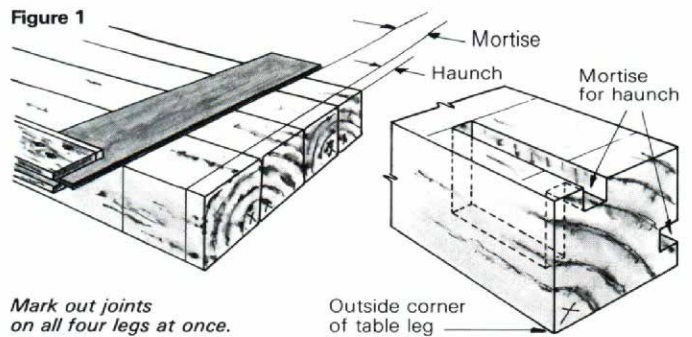

Figure 2
1) Kirby corrects his chisels so the sides are parallel and square with the back. For me a chisel with parallel sides is a car without a steering wheel. The sides of my chisels are tapered 1° toward the front face as shown in fig. 2. This is better because you can twist it against wild grain to keep the mortise straight. The chisel back has to be straight, the edge sharp and the handle large and square with rounded corners and rounded top, so it can take a beating. The partially square handle is easier to steer and sight up—you can get a good solid grip. To make such a handle I turn it oversize, mount the chisel, then plane the flats.